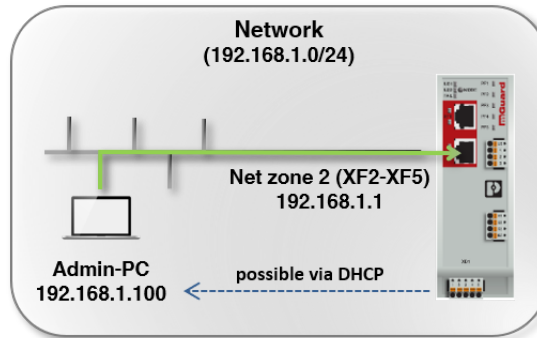

Figure 4-3 Establishing a network connection to the device
To configure the device by means of a web browser (web-based management), you first have to connect it to a configuration computer (see Figure 4-3).
- Either directly or via the network, connect the configuration computer with a network port XF2–XF5 of net zone 2 of the device (see Figure 4-3).